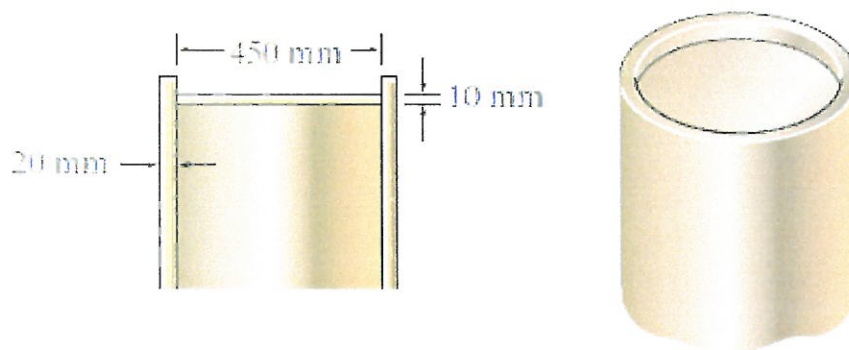

Figure 4: A pressure-vessel head
- (b) A pressure-vessel head is fabricated by gluing the circular plate to the end of the vessel as shown in Figure 4. If the vessel sustains an internal pressure of 450 kPa.